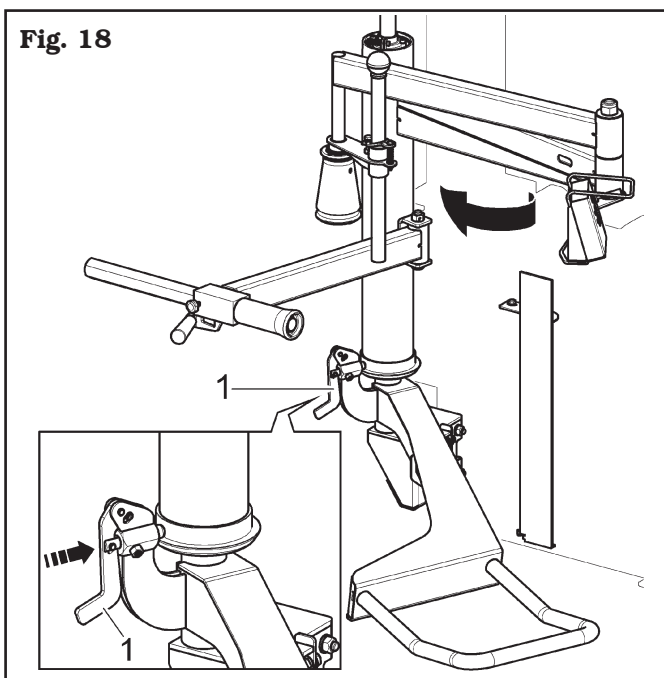

Fig. 18
Make sure the clamping hook (Fig. 18 ref. 1) is positioned as indicated in Fig. 18 and close the Plus Device in rest position.